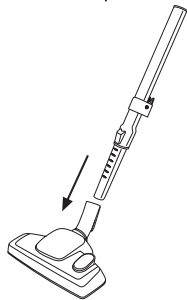

Figure 4
c. Fitting the brush to the extension tube.(Figure 4)